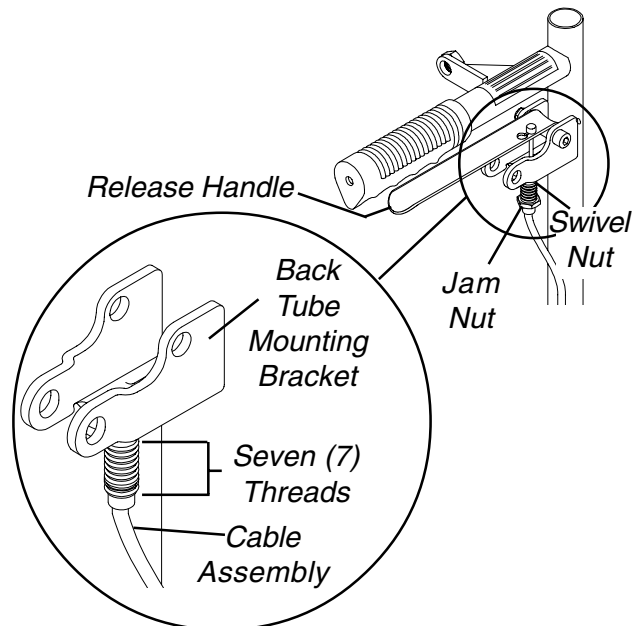

FIGURE 2 - ADJUSTING THE TENSION OF THE CABLE ASSEMBLY
ADJUSTING THE TENSION OF THE CABLE ASSEMBLY (FIGURE 2)
*NOTE: When connecting the lower cable assembly to the recliner tube, the housing must be at 90° to the frame step tube. See **DETAIL "A"** for top view and **FIGURE 2** for side view.*